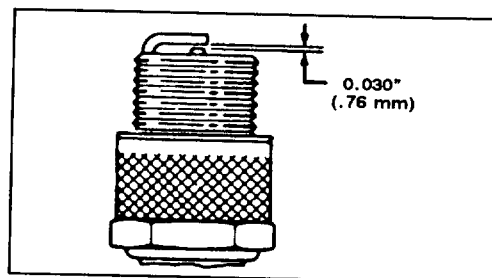

Figure 14
3. Set air gap at 0.030" (0.76 mm) (Fig. 14). Install correctly gapped spark plug and gasket seal. Tighten plug firmly to 15 ft-lb (20 N·m).